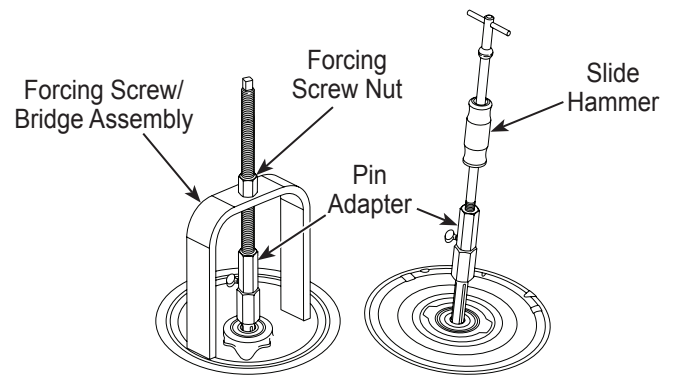

Figure 2
- Thread and tighten the end of the forcing screw/bridge assembly, or slide hammer, into the top of the pin adapter. See Figure 2. *Note: The pin adapter is designed to accept both 1/2- and 5/8-in. slide hammers.*